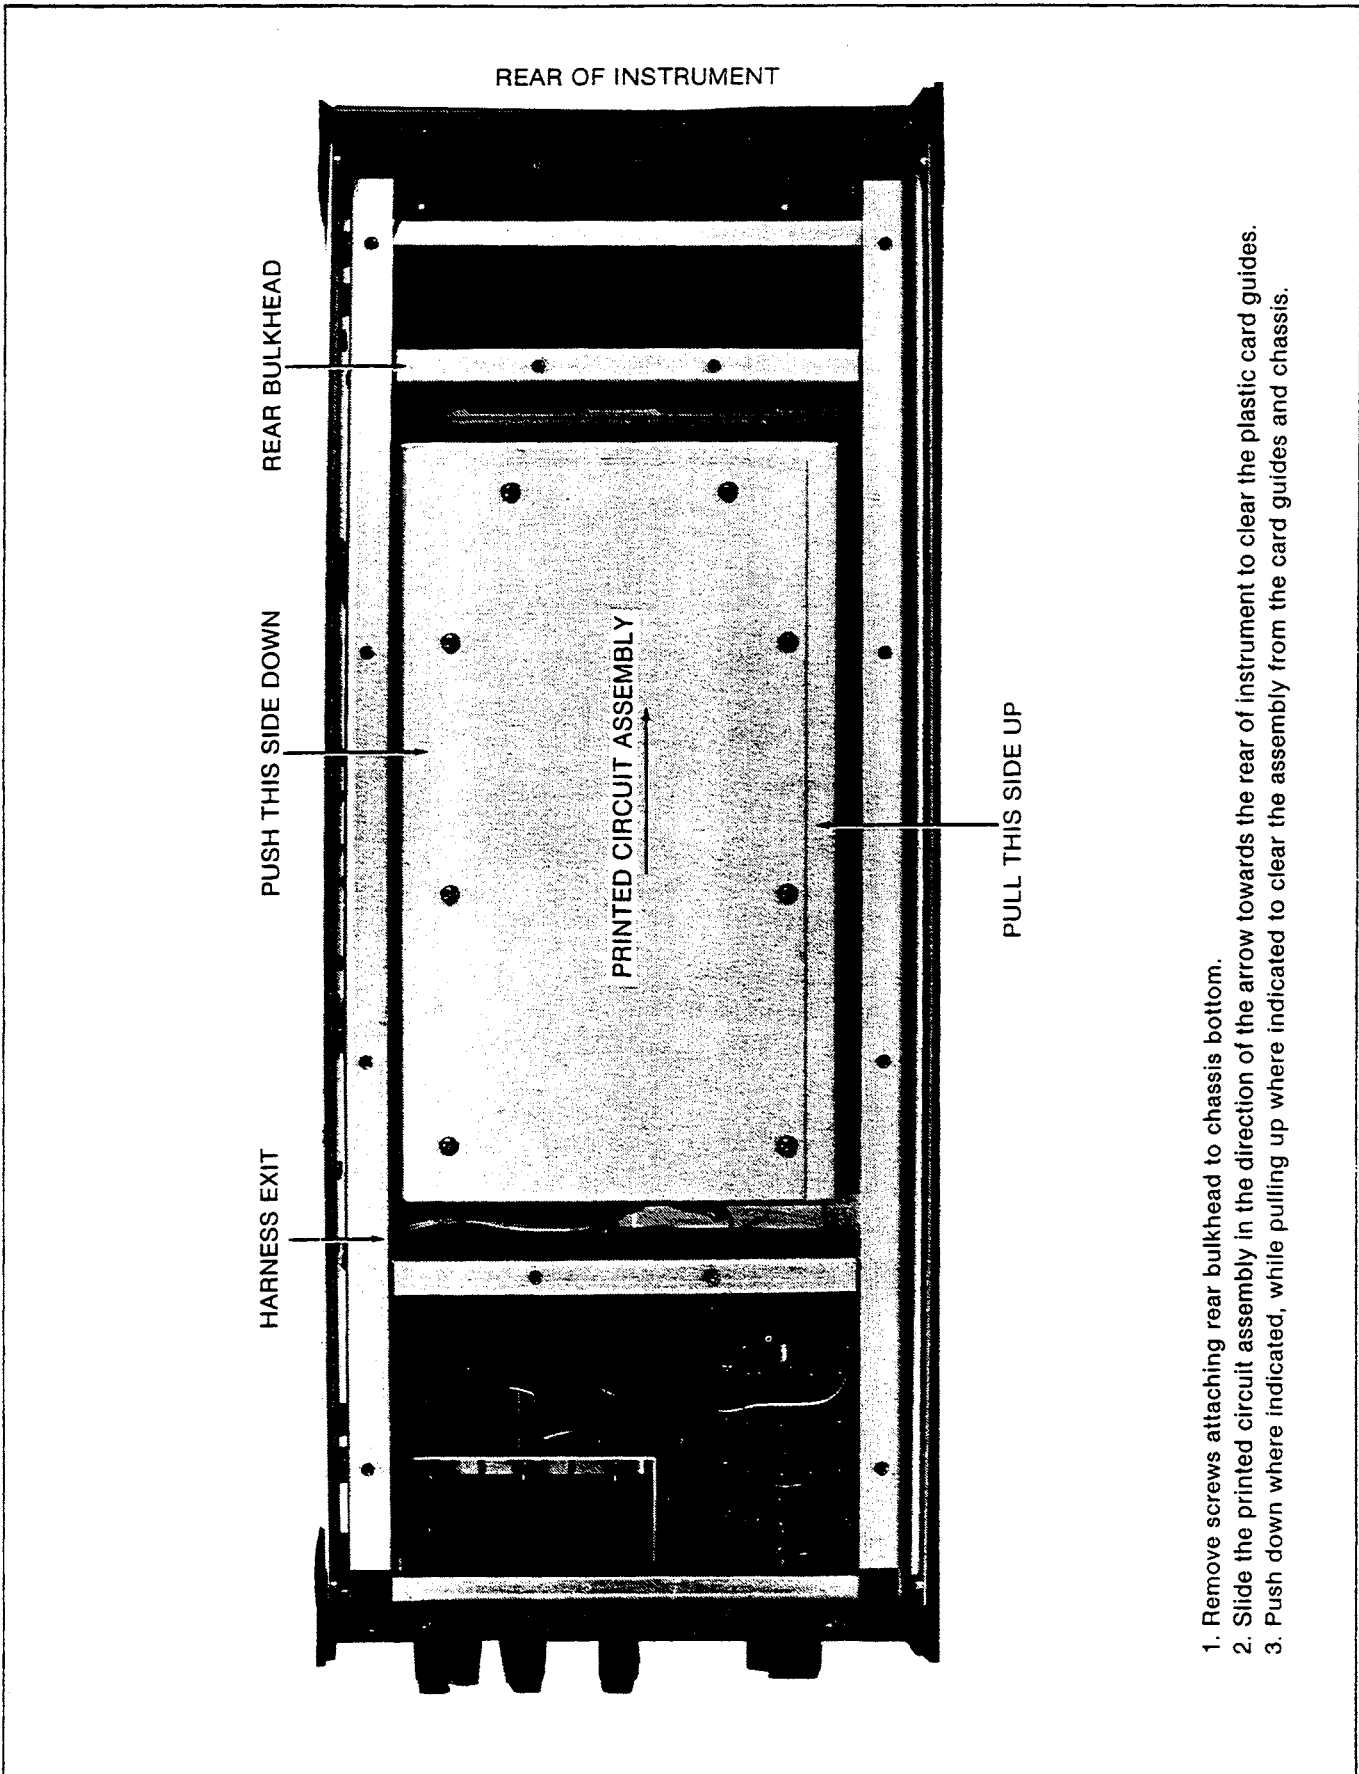

Figure 4-3. PCB Access
4-25. Use the following procedure to remove the printed circuit board from the 752A. Refer to Figure 4-3.
6. Disassemble the 752A and inspect the Bridge and Compensation PCB assembly. Determine the status of jumpers E21 through E30 inclusive. The jumper locations are shown in Figure 4-3. Use Table 4-2 to find the present compensation value (R_c).
4. Remove the top cover, guard cover, and service cover. Inspect the Bridge and Compensation PCB assembly to determine the status of jumpers E1 through E10 inclusive. The jumper locations are shown in Figure 4-3. Use Table 4-3 to find the present compensation value (R_c).